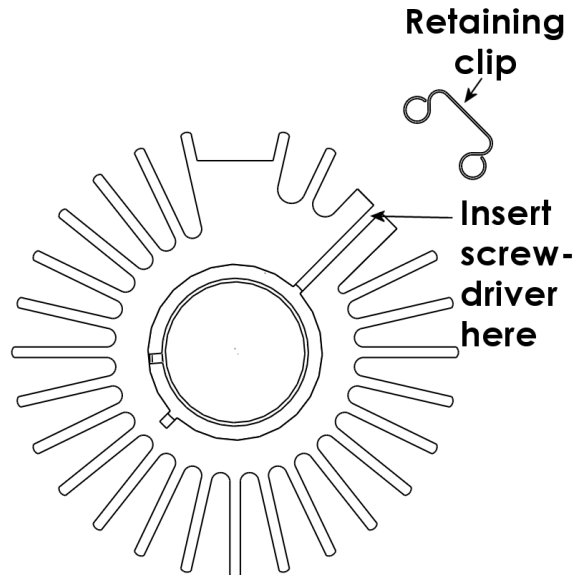

Figure 3-3. Heat sink retaining-clip removal.
3. Pry one of the retaining clips off one of the heat sinks and remove the heat sink. If the heat sink does not come off the bulb, insert a flat screw driver in the side slit of the heat sink and widen the gap (Figure 3-3) to remove the bulb. Repeat with the second heat sink.